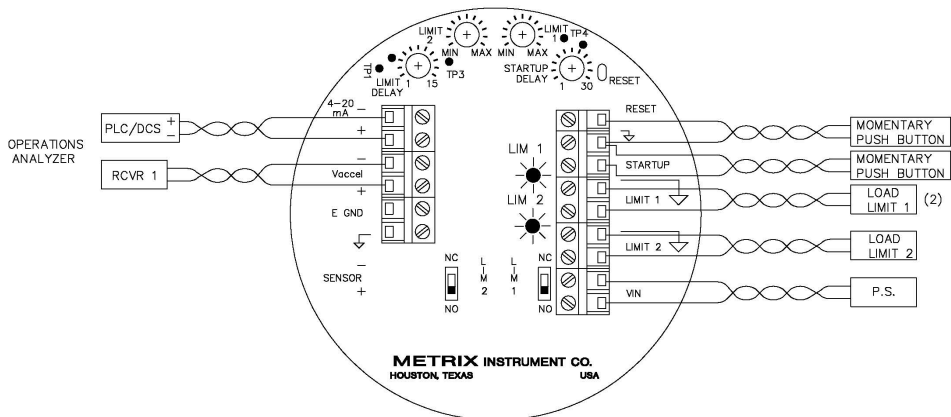

Figure 2: Wiring Diagram (LCD option not shown)
Refer to Figure 2 for wiring information. For incoming power and switch output(s) use approved wire of 14 AWG (1.5 mm²) or smaller.
- Set each SW6000 for N.C. (normally closed) operation. (See Figure 2)
- a. Set each SW6000 for N.C. (normally closed) operation. (See Figure 2)
The optional FET limit output(s) provide a low leakage switch for DC inputs to PLC's or other devices. Do not use on an AC supply. Observe proper polarity when wiring the FET(s) (See figure 2). Damage to the FET(s) will result from improper wiring. As with the triacs, the FET(s) can be set for N.C. or N.O. operation by positioning the Limit 1/Limit 2 switches accordingly.
If remote reset capability is desired, connect Reset terminals (see Figure 2) to a remotely located, momentary N.O. pushbutton switch. Observe hazardous area requirements if applicable.
If the optional 4-20 mA output is installed, it may be connected to a remote receiver, as shown on the wiring diagram (see Figure 2). This output is a current source (at 15VDC) and requires no external loop power supply. Full scale current (20 mA) corresponds to the full scale vibration response marked on the face plate. A current of 4.0 mA represents a zero vibration condition. The maximum load resistance is 600 ohms. In high electrical noise locations a shielded, twisted pair cable is recommended.
The Limit Setting adjustment allows the user to set the vibration levels at which a limit will trip. The adjustment has a range of -10% to 110% of the full scale vibration level. A midscale adjustment corresponds to a 50% vibration level limit. The limit setting can be set precisely by measuring the limit voltage with a DVM. The test points for measuring this voltage are labeled TP3 (Limit 2), TP4 (limit 1) and COM (common) on Figure 2. The DC voltage represents a percentage of full scale. For example, .46 VDC would represent a limit setting of 46% of full scale. Turning the adjustment to its minimum value (CCW) allows the user to test the trip circuitry, including LED's, time delays and triac (FET) switches.